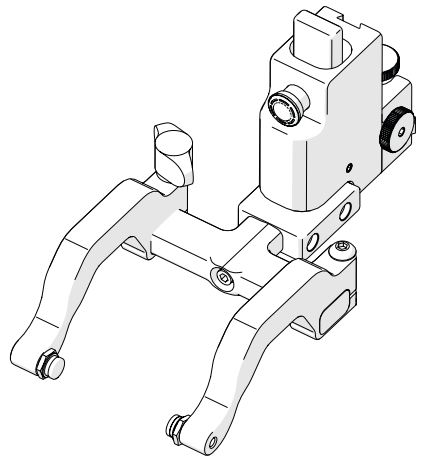

Fig. 41 - 90° probe holder positioning
2. Orient the yoke to the front of the probe holder and screw the yoke into the threaded hole provided (Fig. 41).